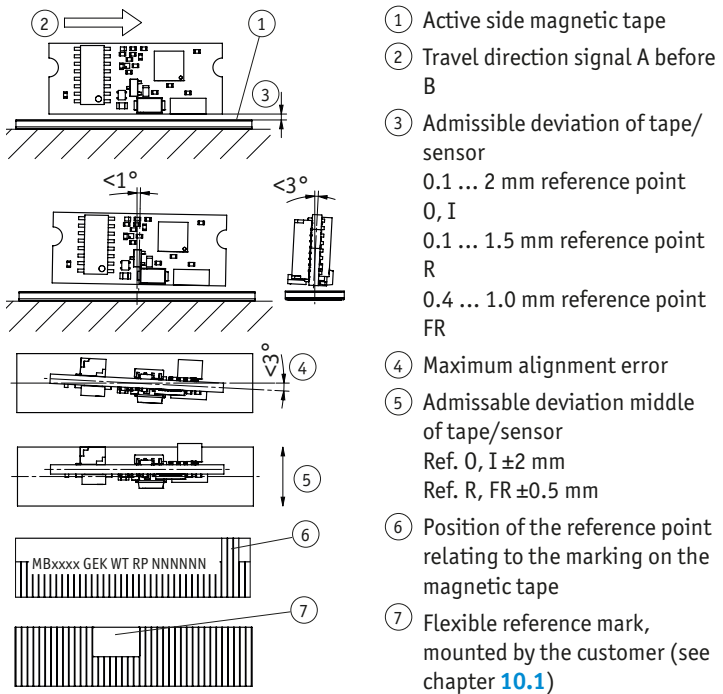

Fig. 6: Definition of the counting direction with magnetic tape and assemblage sensor / magnetic tape, gap measure, tolerances
► Take care that the magnetic sensor is aligned correctly in order to ensure optimum sensing (see Fig. 6).
length (see Fig. 6, Fig. 8).